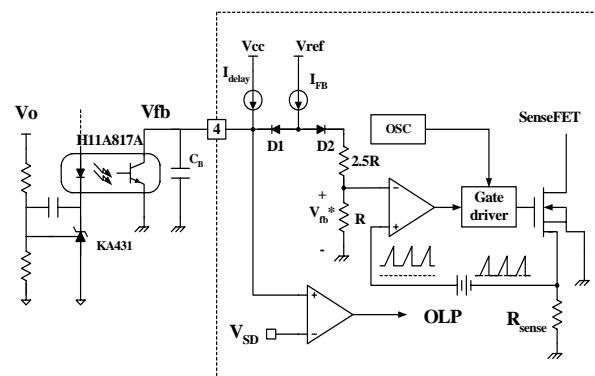

Figure 5. Pulse Width Modulation (PWM) Circuit
**2. Feedback Control :** FSES0765RG employs current mode control, as shown in figure 5. An opto-coupler (such as the H11A817A) and shunt regulator (such as the KA431) are typically used to implement the feedback network. Comparing the feedback voltage with the voltage across the Rsense resistor plus an offset voltage makes it possible to control the switching duty cycle. When the reference pin voltage of the KA431 exceeds the internal reference voltage of 2.5V, the H11A817A LED current increases, thus pulling down the feedback voltage and reducing the duty cycle. This event typically happens when the input voltage is increased or the output load is decreased.
**2.1 Pulse-by-pulse Current Limit:** Because current mode control is employed, the peak current through the Sense FET is limited by the inverting input of the PWM comparator (Vfb\*) as shown in figure 5. Assuming that the 0.9mA current source flows only through the internal resistor (2.5R + R = 2.8 kΩ), the cathode voltage of diode D2 is about 2.5V. Since diode D1 is blocked when the feedback voltage (Vfb) exceeds 2.5V, the maximum voltage of the cathode of D2 is clamped at this voltage, thus clamping Vfb\*. Therefore, the peak value of the SenseFET current is limited.